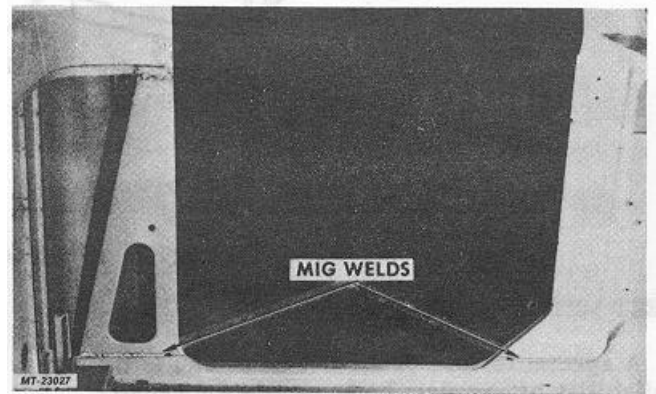

Fig. 38. Location of MIG Weld Seams
2. Separate inside panel of side panel assembly from sill side inner panel. Free inside panel of side panel assembly by cutting through MIG weld (Fig. 38) at bottom of panel. (On 80" wide cabs remove spot weld used at cowl side inner panel).